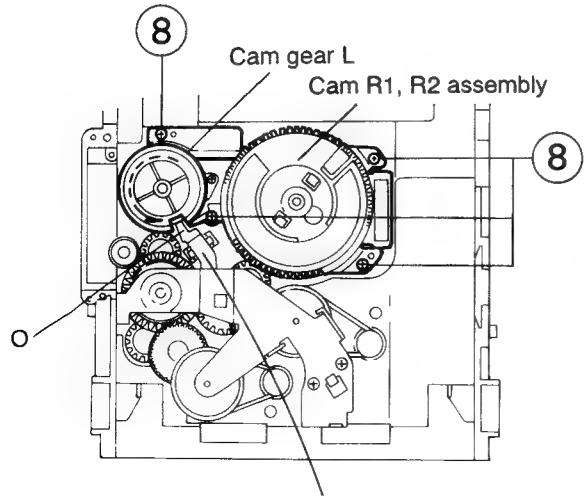

Fig. 5-32
- While turning the cam gear L, align the pawl (O) position of the select lever to the notch position (Fig. 5-32) on the cam gear L.
- Remove the four screws (8) retaining the cam unit (cam gear L and cams R1/R2 assembly) (See Fig. 5-32).